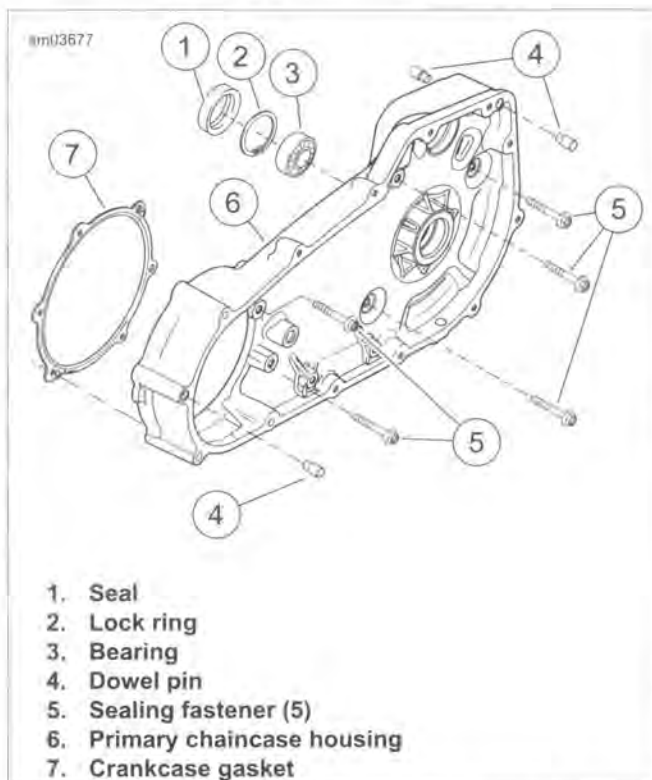

Figure 5-19. Primary Chaincase Housing
5. See Figure 5-19. Remove five sealing fasteners (5). Remove primary chaincase housing (6). Discard the crankcase gasket (7) and sealing fasteners.